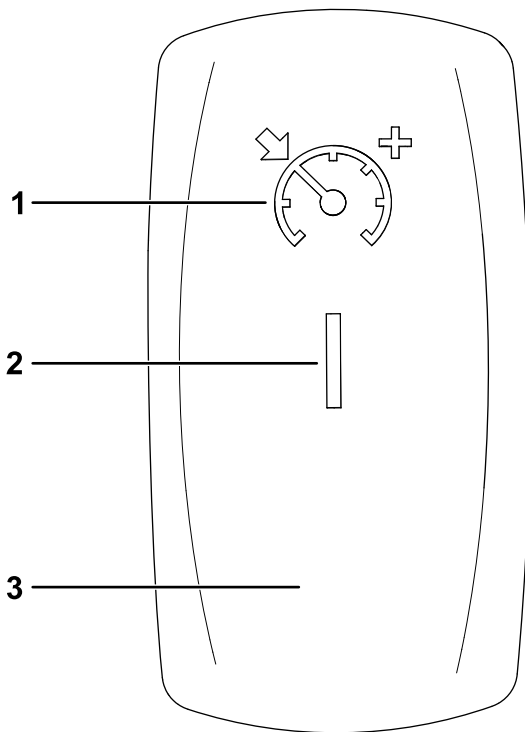

Figure 71
1. Move the cruise control switch to the ON position (Figure 71).
2. When you reach the desired drive speed, press the cruise control switch up to engage/set the cruise control (Figure 71).
To increase the cruise control speed, press the switch up until you reach the desired speed (Figure 71).
To disengage cruise control, press the switch to the down, OFF position (Figure 71).